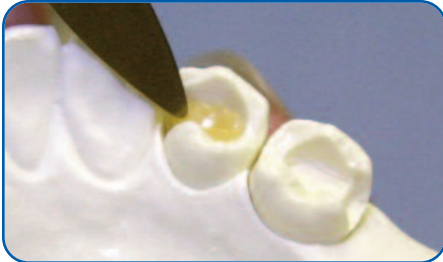

Fig. 1
3. Cut a thin section of prepared *Sculpture Plus* Range Modifier or Body material and adapt to the preparation floor using appropriate instruments. (Fig. 1)